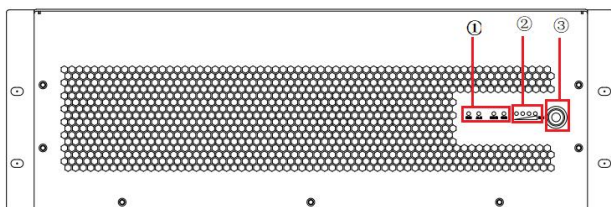

Figure 3-21 Front Panel of the DC/DC Module
Step 1: Press button ③ on the DC/DC module to power it on. The corresponding ① and ② LEDs on the DC/DC module illuminate, and the monitoring screen powers on and displays normally, indicating that the DC/DC module has powered on successfully. If the DC/DC module is already powered on, this step may be omitted. For details, refer to Figure 3-21 below.